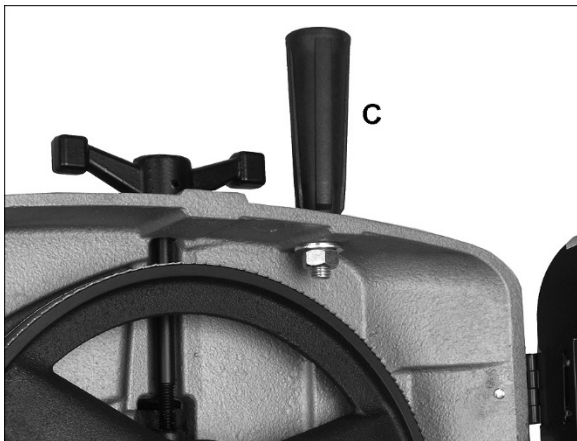
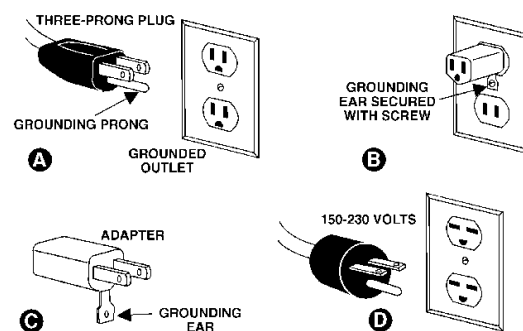

Figure 6-5: installing handle
Figure 7-1: grounding
4. Install handle with flat washers and nut (C, Figure 6-5), using 19mm wrench. To install, raise bow to vertical position and open guard. **CAUTION:** Spring-tensioned stop bracket (see Figure 7-1) must be rotated out of the way before raising bow.
The HVBS-712 and HVBS-712D Band Saw is rated at 115/230V power, and is pre-wired for 115 volt. The band saw comes with a plug designed for use on a circuit with a *grounded outlet* that looks like the one pictured in **A**, Figure 7-1.
When operated at **115-volt**, this tool is intended for use on a circuit that has an outlet that looks like the one illustrated in **A**, Figure 7-1. An adapter, shown in **B** and **C**, may be used to connect this plug to a 2-pole receptacle as shown in **B** if a properly grounded outlet is not available. The temporary adapter should be used only until a properly grounded outlet can be installed by a qualified electrician. The green-colored rigid ear, lug, and the like, extending from the adapter must be connected to a permanent ground such as a properly grounded outlet box. **Note:** *In Canada, the use of a temporary adaptor is not permitted by the Canadian Electrical Code, C22.1.*
When operated at **230-volt**, this tool is intended for use on a circuit that has an outlet that looks like the one illustrated in **D**, Figure 7-1. The tool has a grounding plug that looks like the plug illustrated in **D**. Make sure the tool is connected to an outlet having the same configuration as the plug. No adapter is available or should be used with this tool. If the tool must be reconnected for use on a different type of electric circuit, the reconnection should be made by qualified service personnel; and after